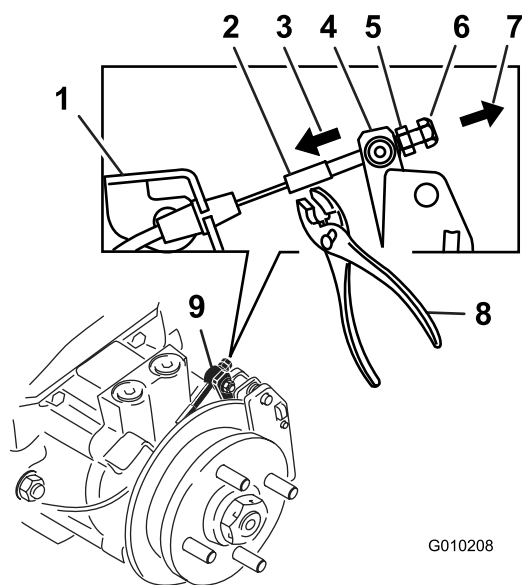

Figure 80
9. Using hands and fingers only, push the caliper lever arm to engage the brake pads on the rotor until the lever stops (Figure 80).
10. While holding the lever at the stopped position, use the other hand or fingers to pull the cable threaded end tight through the swivel. Spin the standard nut against the swivel (Figure 80).